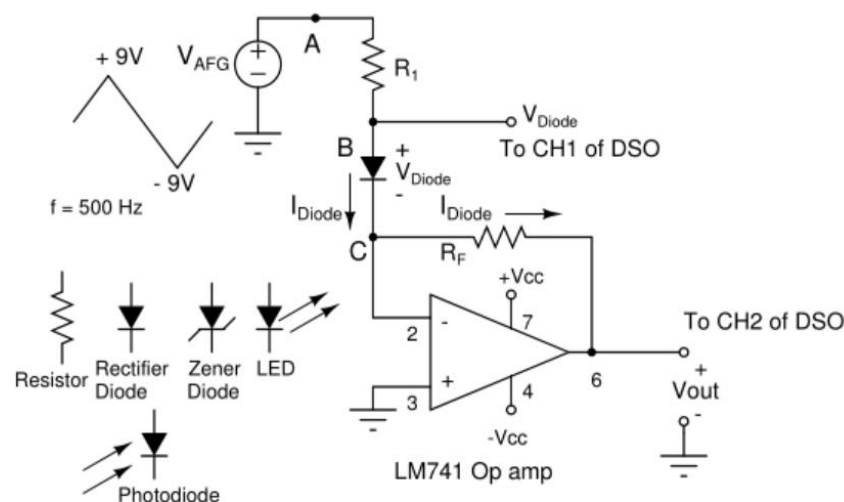

Fig. 4 LM741 Op amp based current-to-voltage converter for obtaining the V-I characteristics of diodes
Circuit diagram to be used for the plotting the V-I characteristics of diodes is shown in Fig.4. Following are the major blocks of the circuit.
In Fig.4, resistance R_1 is used as a current-limiting resistor. We shall choose $R_1 = 1$ k Ω to limit the maximum current to roughly 8 mA. Almost the entire diode current (I_{Diode}) will flow from the V- terminal through R_F to
- Wire the current-to-voltage converter circuit shown in Fig.4.
Note: With reference to Fig.4, $I_{Diode} = I_{Res}$; $V_{Diode} = V_{Res}$.
- d) Observe the XY plot of the given IN4007 Rectifier diode. With reference to Fig.4, the voltage across the diode (V_{Diode}) is the X waveform (CH1) and the current through the diode (I_{Diode}) is the Y waveform (CH2).